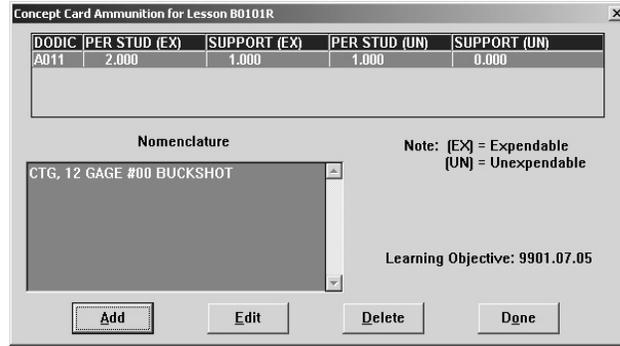
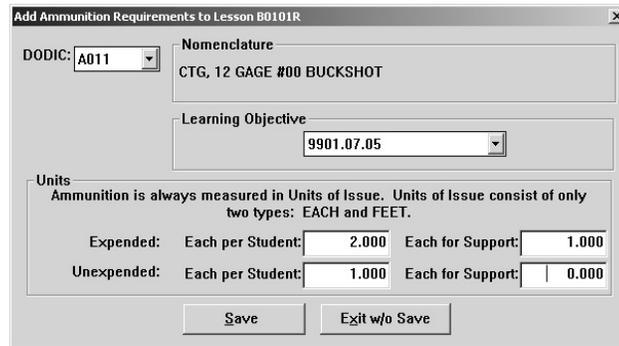

Figure 6-98. Concept Card Ammunition for Lesson
Figure 6-99. Add Ammunition Requirements to Lesson
- b. If you have selected a task-oriented lesson, the Concept Card Ammunition for Lesson selection list box (Figure 6-98) opens.
1. From the Concept Card Ammunition for Lesson (Figure 6-98) selection list box, click on **Add**. The Add Ammunition Requirements to Lesson dialog box (Figure 6-99) opens.
1. From the Concept Card Ammunition for Lesson selection list box (Figure 6-98), highlight the record you wish to edit by clicking on it.
2. Click on **Edit**. A dialog box similar to the one in Figure 6-99 opens.
1. From the Concept Card Ammunition for Lesson selection list box (Figure 6-98), mark the ammunition you wish to remove from the concept card using the multiple select feature.